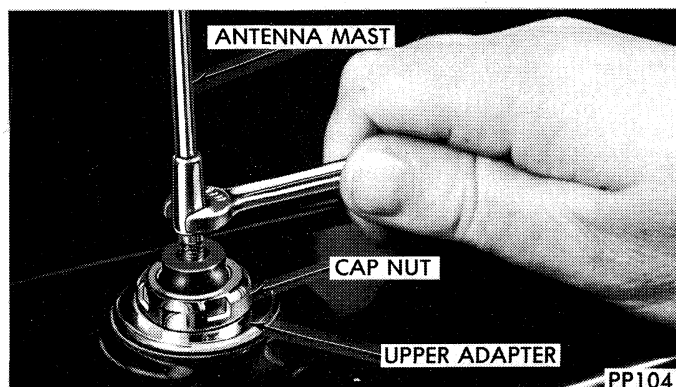

Fig. 6—Antenna Mast Removal and Installation
- (1) Unplug antenna lead from radio receiver.
- (2) Remove antenna mast by unscrewing mast from antenna body (Fig. 6).
- (3) Install antenna mast into antenna body until sleeve bottoms on antenna body (Fig. 6).
- (4) Route cable to radio.